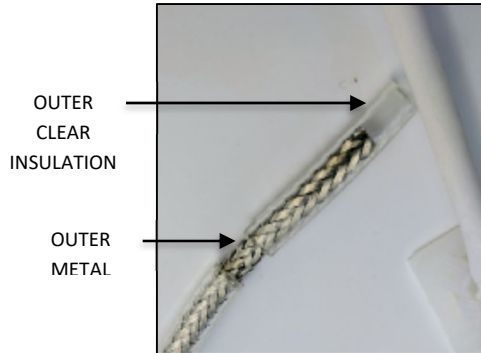
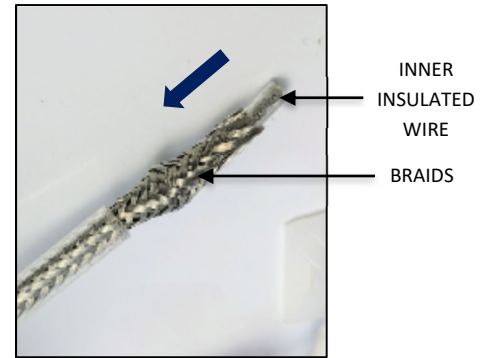

FIG. 24
FIG. 25
1. Strip off 1.00" of outer clear insulation exposing the outer metal braiding as shown in FIG. 24 below. **Be careful not to cut or damage the outer metal braiding.** Gently push braiding down to loosen the individual braids exposing the inner insulated wire as shown in FIG. 25 below.